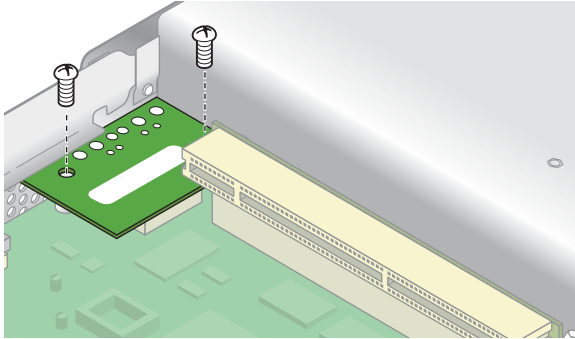

FIGURE 4-3 Removing the I/O Board
2. Remove the two screws securing the I/O board to the motherboard (see FIGURE 4-3).